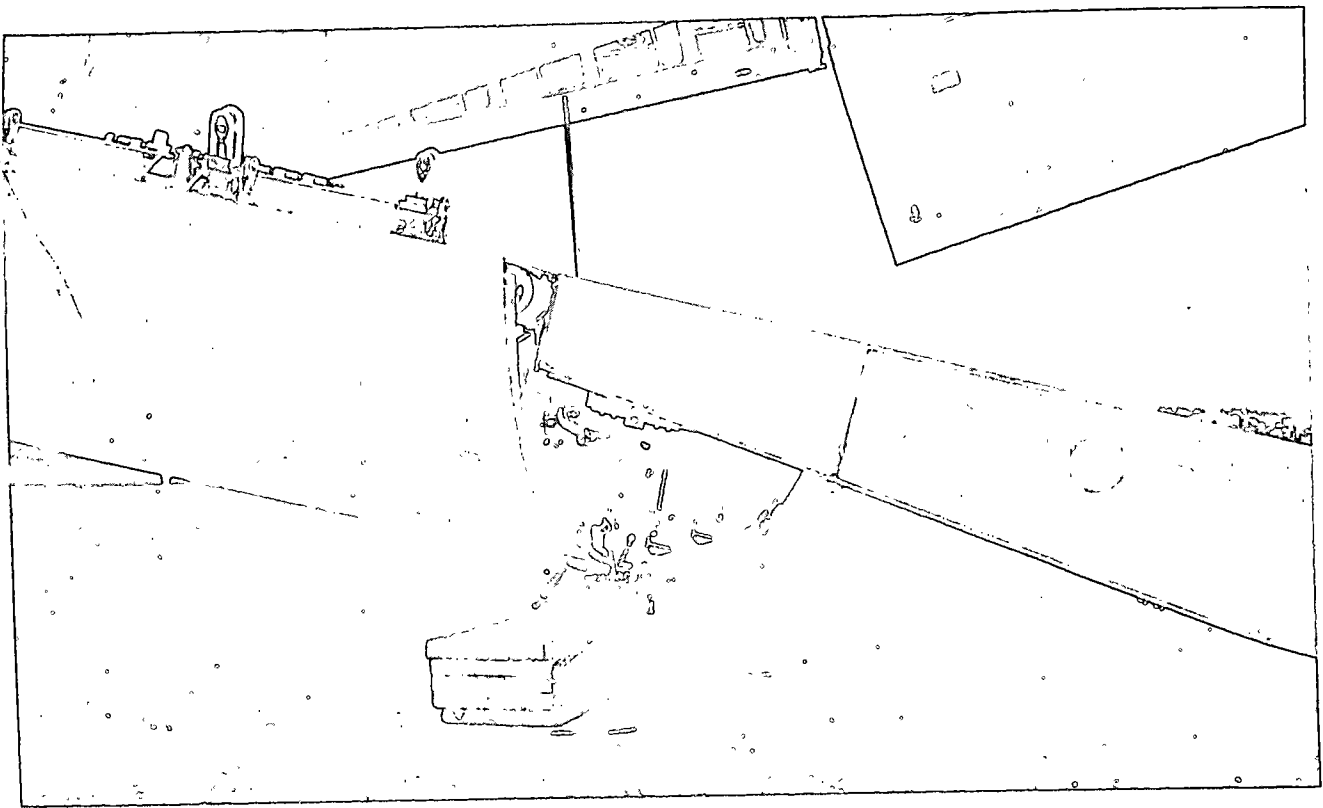

Figure 2-142. Positioning of shoring under aft ramp pads.
a. Position the five pieces of 2- by 12-inch by 16-foot shoring under ramp pads as shown in figure 2-142.
b. Drive items 1 and 2 into the cargo compartment over the aft ramp and park with the